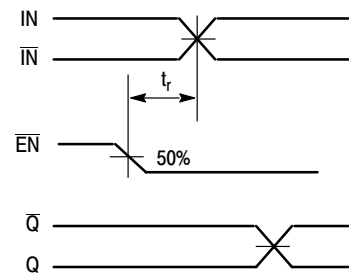

Figure 5. Release Time
20. The release time is the minimum time that $\overline{EN}$ must be deasserted prior to the next IN/ $\overline{IN}$ transition to ensure an output response that meets the specified IN to Q propagation delay and output transition times (see Figure 5).